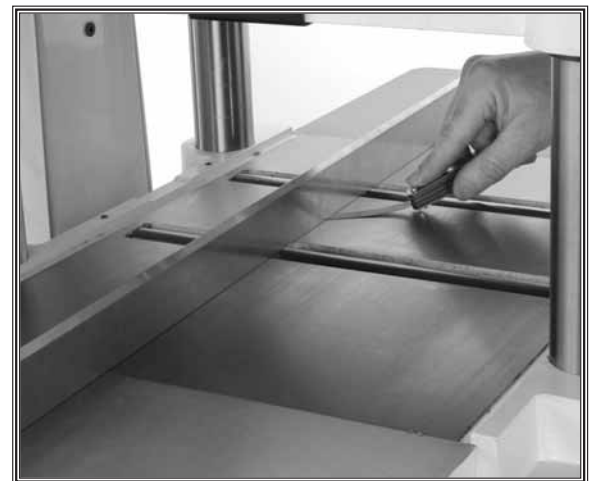

Figure 12. Checking roller height.
2. Using a straightedge and wrench, raise the rollers on their eccentric shafts 0.002" to 0.020" above the table surface **Figure 12**.